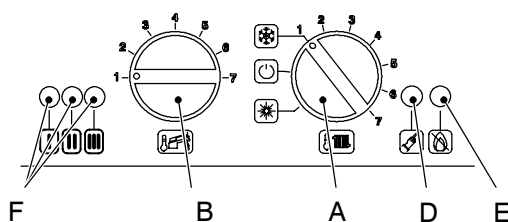

Fig. 20
- 1 Turn the boiler ON positioning the function selector knob A as indicated in Fig. 20.
- 2 Turn knob B as indicated in Fig. 20.